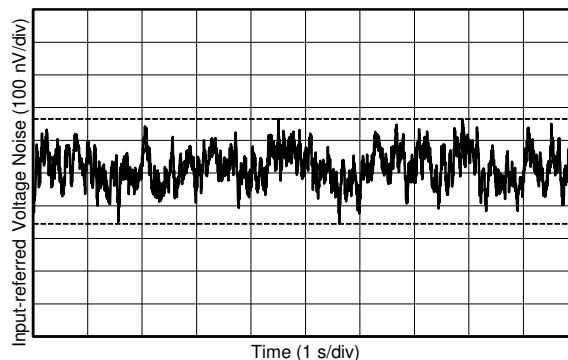

Figure 6-16. 0.1-Hz to 10-Hz Voltage Noise
0.1-Hz to 10-Hz Voltage Noise	<a href="#">Figure 6-16</a>